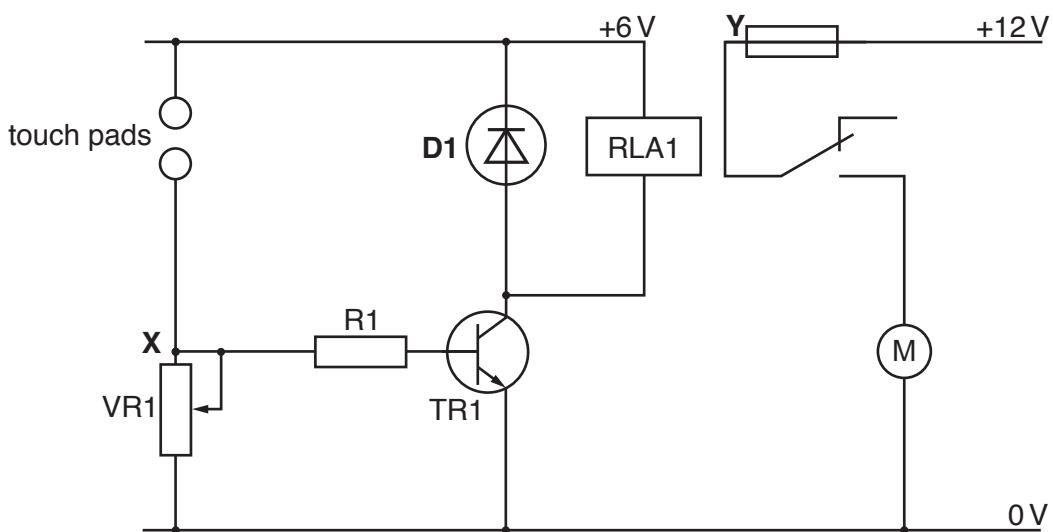

Fig. 14
- (b) Fig. 14 shows a touch pad sensor circuit used to operate a motor.
- (vi) Give the name of component **Y** in Fig. 14.